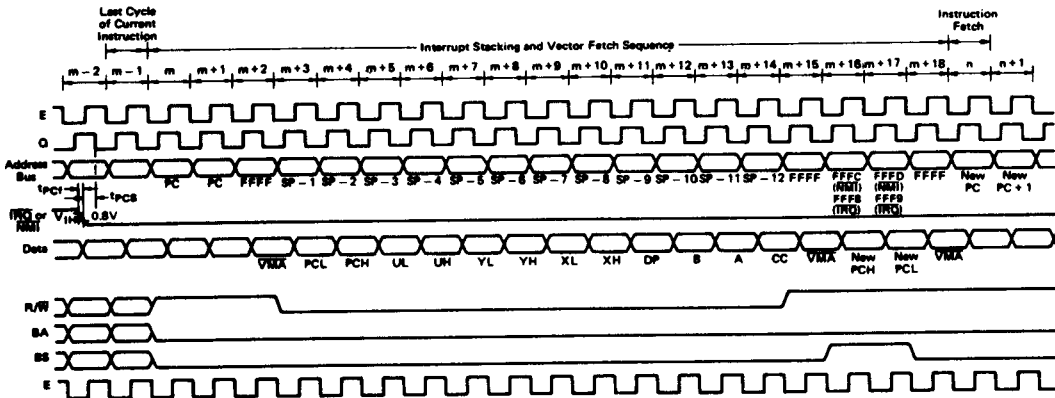

Figure 9 $\overline{\text{IRQ}}$ and NMI Interrupt Timing
hardware stack. After reset, an NMI will not be recognized until the first program load of the Hardware Stack Pointer (S). The pulse width of NMI "Low" must be at least one E cycle. If the NMI input does not meet the minimum set up with respect to Q, the interrupt will not be recognized until the next cycle. See Fig. 9.
A "Low" level input on this pin will initiate an interrupt Request sequence provided the mask bit (I) in the CC is clear. Since $\overline{\text{IRQ}}$ stacks the entire machine state it provides a slower response to interrupts than $\overline{\text{FIRQ}}$. $\overline{\text{IRQ}}$ also has a lower priority than $\overline{\text{FIRQ}}$. Again, the interrupt service routine should clear the source of the interrupt before doing an RTI. See Fig. 9.